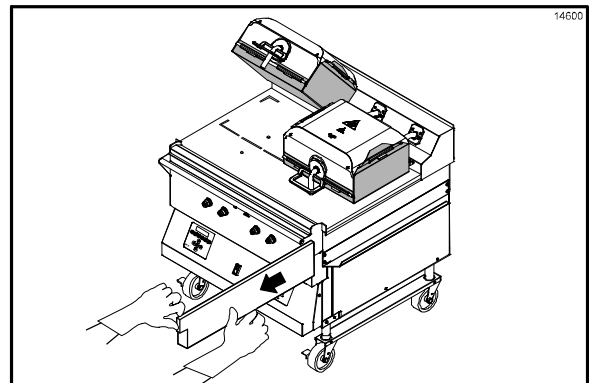

Figure 101
42. Remove and empty the grease pans. (See Figure 101.)